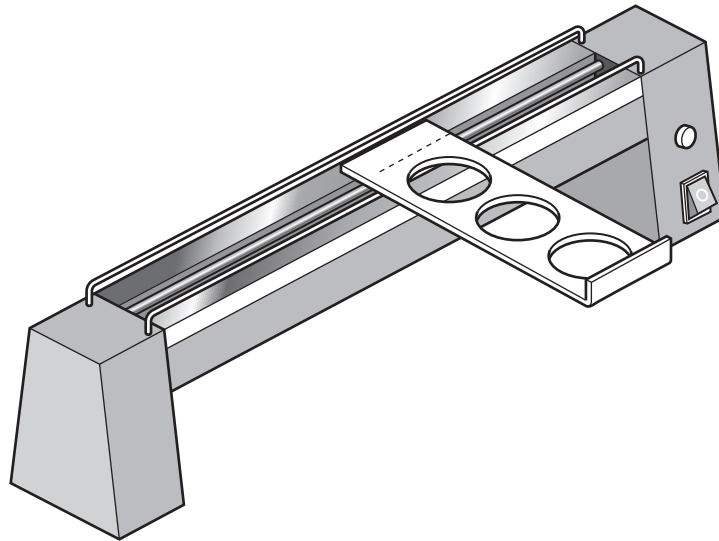

Fig. 13.6
- (d) Fig. 13.6 shows the development (net) of the palette being heated on a strip heater.